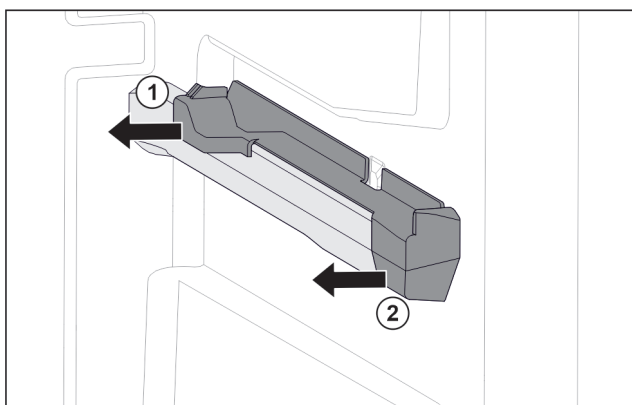

Fig. 71 Attachment on the right moulded rib
- Pull off attachment at the back sideways. Fig. 71 (1)
- Pull off attachment at the front sideways. Fig. 71 (2)